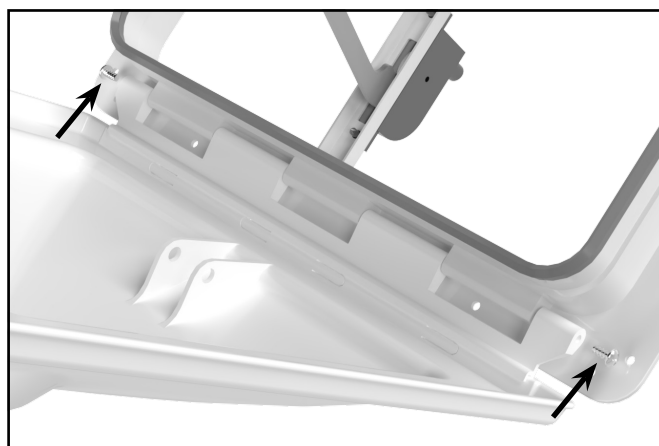

Figure 5
- c. Install the screws that were supplied with the new hinge into the outsides of the outside hinges to trap the rod in place. (**Figure 5**).